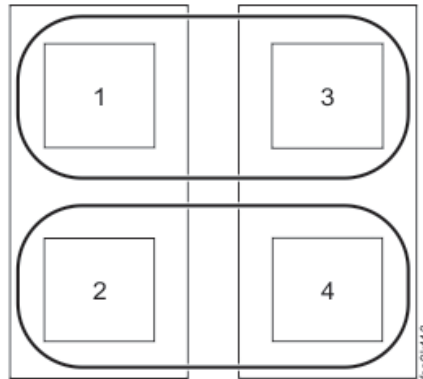

Figure 23. Crossing grid controller adapter ports
- Use both Fibre Channel or iSCSI adapters within each of the grid controllers, as shown in Figure 23 on page 51.